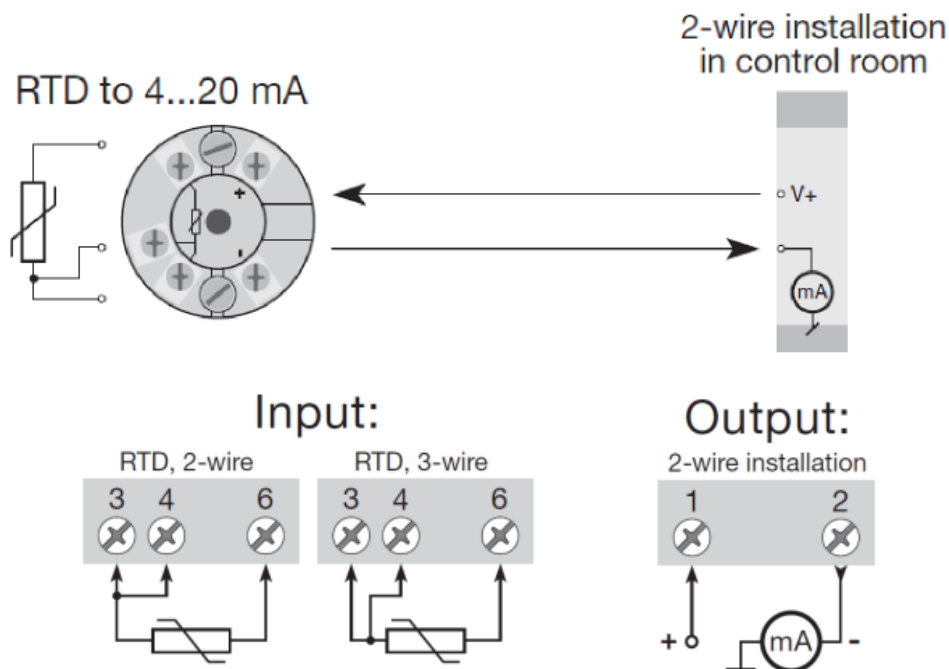

Figure 2
4. Connect the Transmitter as shown in Figure 2, observing the +/- polarity of the current loop. Maximum DC supply voltage = 30 VDC. The RTD leads of the same color should be connected to terminal block positions "3" and "4" and remaining RTD lead should be connected to position "6" for the transmitter to function properly.